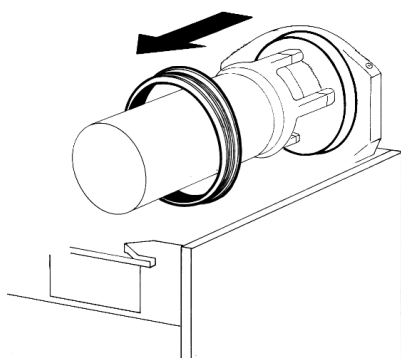

figure 8
- 4 Remove the bowl gasket from its seat (see figure 8).